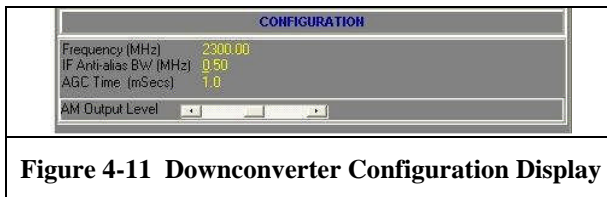

Figure 4-11 Downconverter Configuration Display
The downconverter configuration display is shown in Figure 4-11 below. The configuration display presents numerical data on the downconverter parameters entered by the user. Depending on the state of the AM Controls (see paragraph 4.2.3.4 below), a slider control may also be present for adjustment of the AM Output Level. The downconverter parameters are described in the paragraphs below.
To select a receive frequency, click on the *Tuner Frequency (MHz)* menu item. Enter the frequency in the resulting pop-up dialog box and then click OK. The updated frequency will be displayed in the configuration display area shown in Figure 4-11 on page 45. Note that the supported tuner resolution is 50 KHz, and that entered values will be rounded off the nearest 50 KHz value in the display. Frequency values outside of the ranges specified above will result in an error message with no change in frequency (the default frequency is 2200.00 MHz).
The Version 2 Lumistar LS-25-D Multi-band RF Downconverter and the LS-25 Multi-band FM Receiver are factory configured to support up to twelve (12) separate IF anti-alias bandwidths. Standard bandwidths include: 500kHz, 1MHz, 1.5MHz, 2.5MHz, 3.5MHz, 4MHz, 6MHz, 8MHz, 10MHz, 12MHz, 16MHz, and 20MHz. At the factory the selected 2nd IF bandwidth values are programmed into a configuration PROM and are used by the LS-3x application to populate frequency values in the pop-up list box (example shown right). In the example shown right, the unit is factory configured with IF anti-alias bandwidths of 0.25, 0.50, 1.0, 2.0, 5.0, 10.0, 20.0, and 40 MHz. The actual IF anti-alias bandwidths the individual user will see when setting the IF anti-alias bandwidth are likely to be different than those show here. Once selected, the IF anti-alias bandwidth will be displayed in the configuration display area shown in Figure 4-11 on page 45.
Figure 4-11 on page 45.